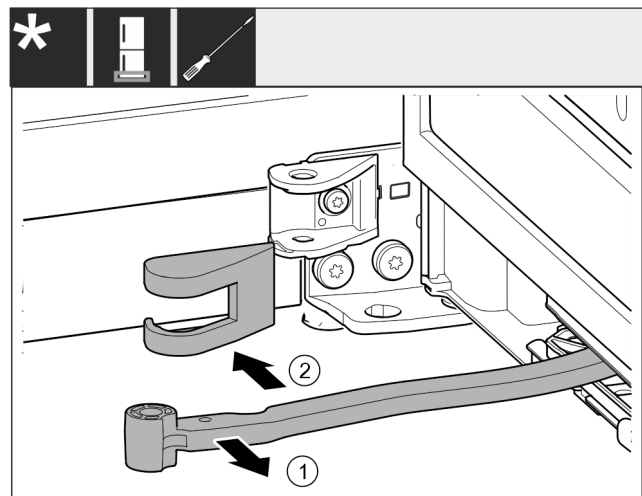

Fig. 16
- ▶ Turn the joint Fig. 16 (1) towards the door.
- ▶ Remove the swap bearing block cover Fig. 16 (2).